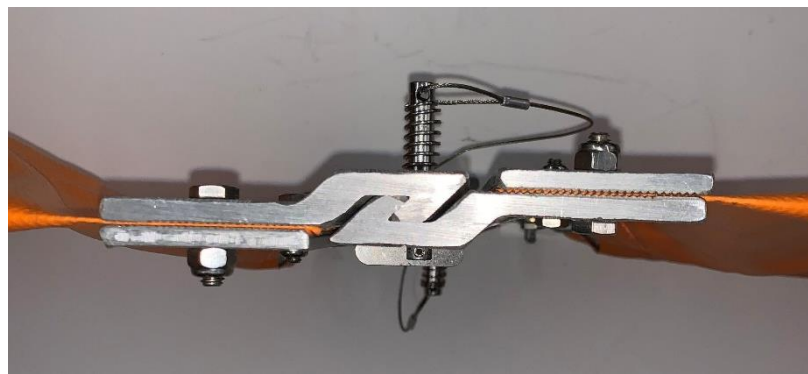
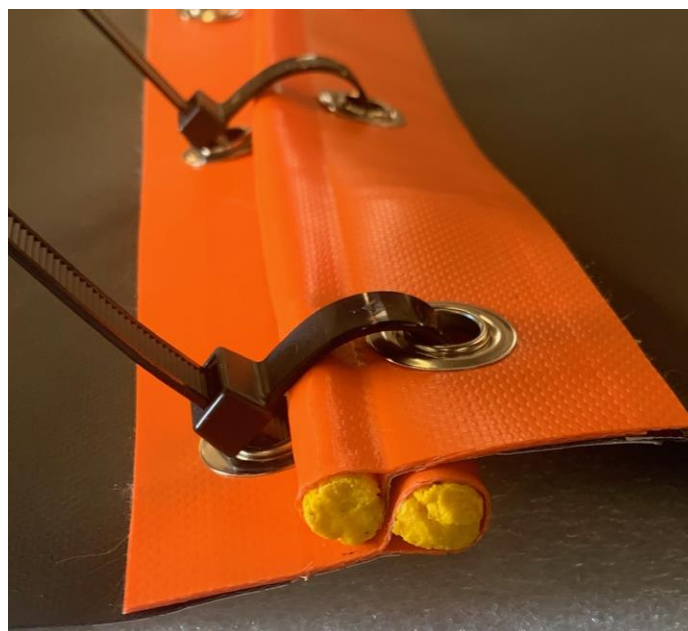
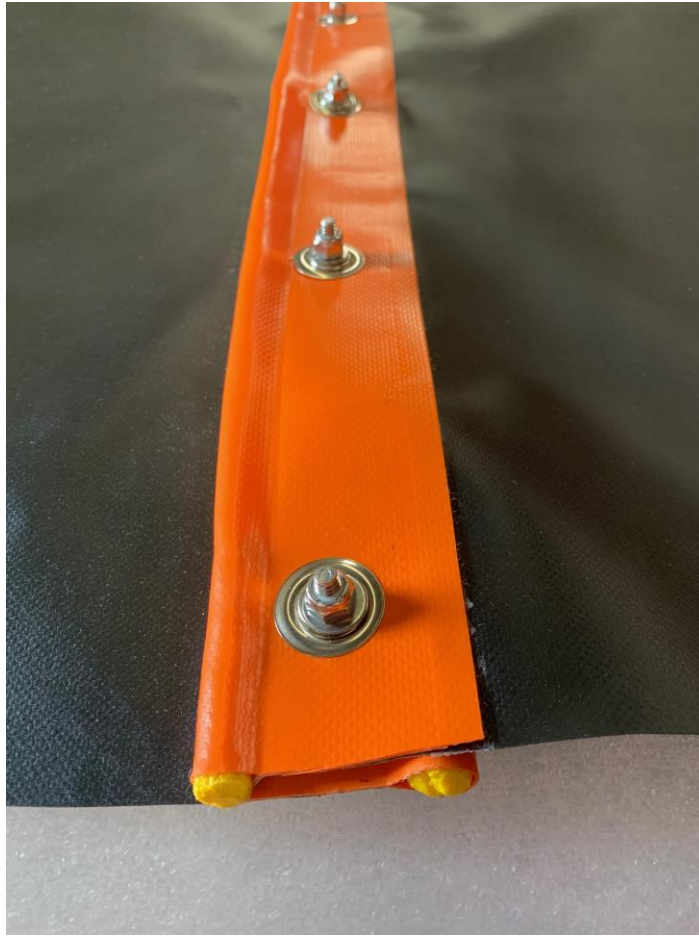

Figure 2 - End Connectors Secured with Toggle Pin
Figure 3 - Grommets Connected with Cable Zip Ties
Figure 4 - Grommets Connected with Stainless Nuts and Bolts
7. On shore (or work boat), connect the turbidity curtain sections end to end. Only remove the first few straps on each end in order to unfurl the skirt and connect the sections. Leave the remainder of the curtain "furled" with straps to make deployment easier. Once deployed the straps should be removed in order to release the skirt to full depth. The aluminum connectors (if applicable) on each end of the boom should be engaged and locked together with toggle pins (Figure 2). Some turbidity curtains do not have connector plates, and instead only offer grommets. Regardless, all grommets in the side seams should be aligned and connected. The grommets can be connected by heavy duty cable zip ties, stainless steel nuts and bolts, or tied together with rope. When using zip ties or rope to connect the grommets, overlap the ropes welded into the side seams against each other and cinch tightly so that the ropes provide additional holding strength (Figure 3). If using nuts and bolts to connect the grommets, be sure the hardware is sized appropriately so that it can't pull through the opening in the grommet (Figure 4). Gently tow the turbidity curtain out with the tow bridle, forming a floating curtain train as it is deployed.